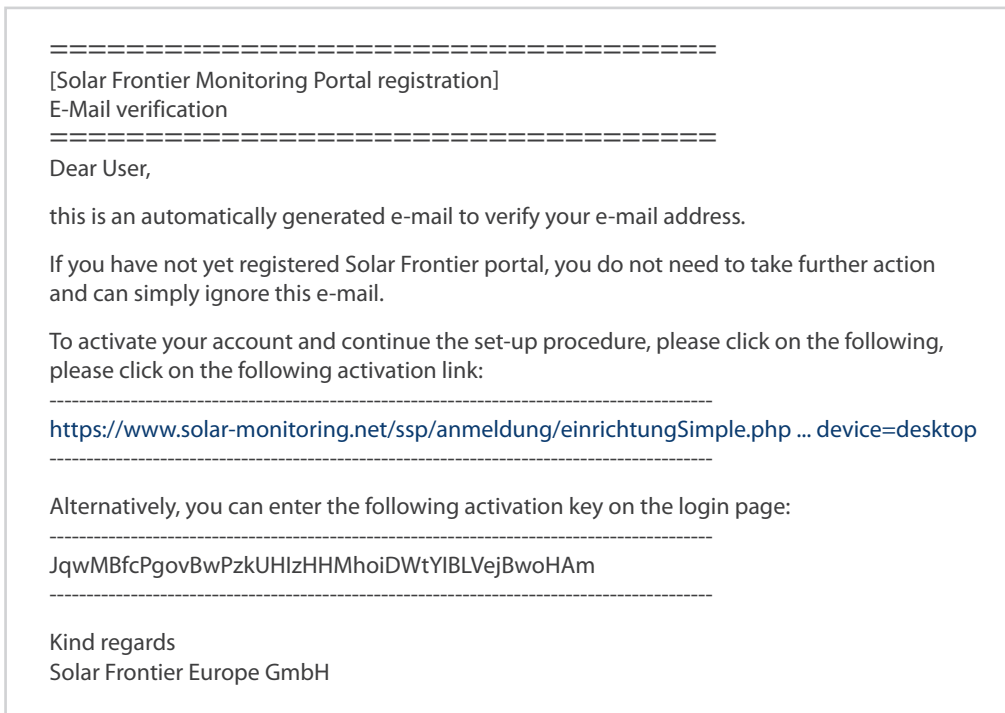
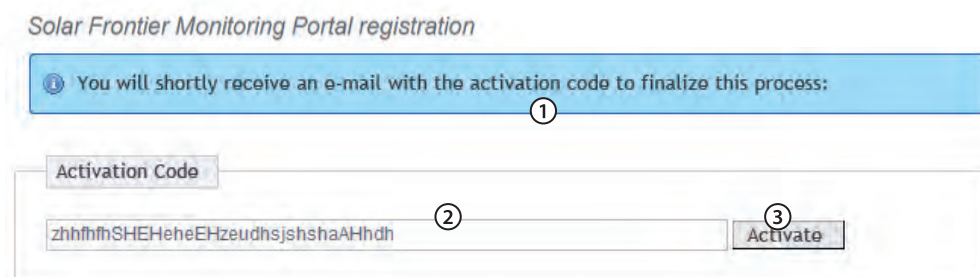
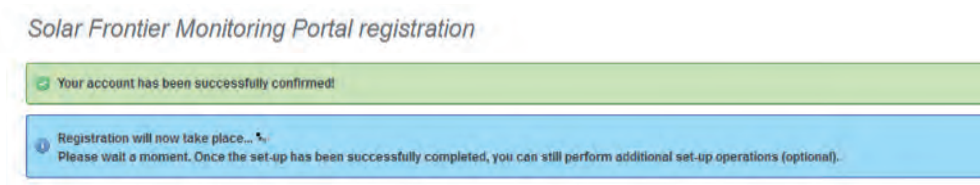

Figure 53
Figure 54
Figure 55
2. Enter the installed power^{A)} of the system into the field ②.
3. Enter a description^{A)} of the system into the field ③. Observe the note ④.
4. Use the Google Maps buttons ⑤ to ⑦ to navigate to the location of the system.
- The location data is displayed in the fields ⑧.
5. Enter an optional address of the system into the field ⑨.
6. Select the check box ⑩ and confirm via the button ⑪.
- Figure 54 appears; an email with the activation code, as shown in Figure 53, is sent to the email address ① in Figure 51.
1. Enter the activation code that you received in the email as per Figure 53 into the field ② (Figure 54).
2. Confirm via the button ③.
- If the registration was successful then Figure 55 appears and you will receive an additional confirmation email (Figure 56). This email contains a direct link to Figure 58, p. 52.